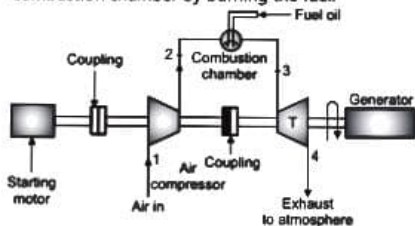

Fig. 1.10 : Open cycle gas turbine power plant
1. Open Cycle Gas Turbine Power Plant: A simple cycle consists of a compressor, combustion chamber and a gas turbine as shown in Fig. 1.10.